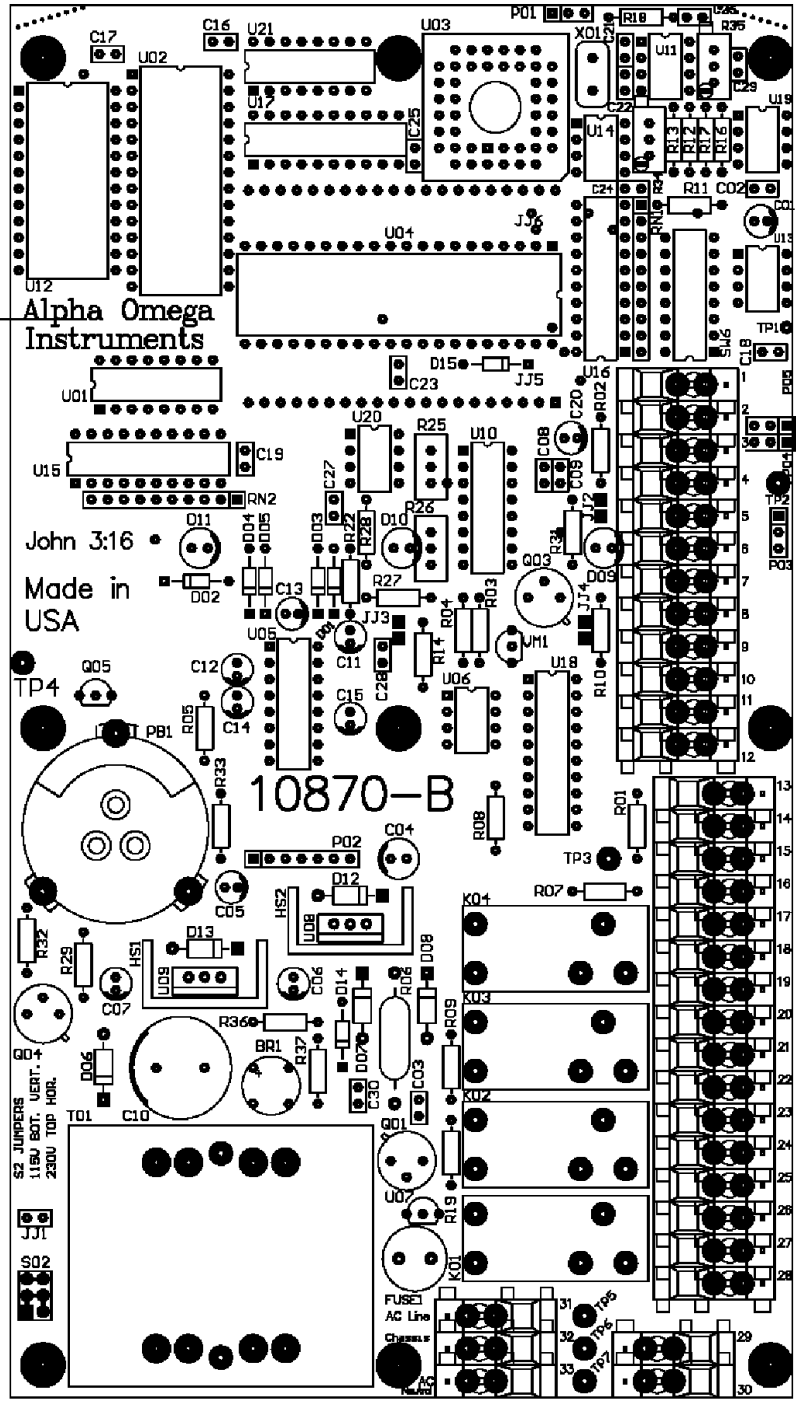

Figure 2-1: Printed Circuit Board
1. Locate the AC Power Terminals - 31, 32, and 33 (refer to Figure 2-1.)
4. If the primary power to the instrument is direct current (DC), wire to terminals 29 (BAT+) and 30 (-).
To configure the fail-safe or non-fail safe modes, use the DIP switch on the main printed circuit board (refer to Figure 2-1).
1. Locate the S2 jumper on the lower left quadrant of the printed circuit board (refer to Figure 2-1: Printed Circuit Board). The 115 VAC configuration uses a 0.5 ampere slow blow fuse (fuse type is Wickman 374050004). 230 VAC configuration uses the same kind of fuse. Refer to Step 3. below for the jumper change required to change AC voltage inputs.
3. Locate the jumpers on the lower left hand side of the printed circuit board (see Figure 2-1: Printed Circuit Board) The jumpers are protected by an "L" shaped cover.